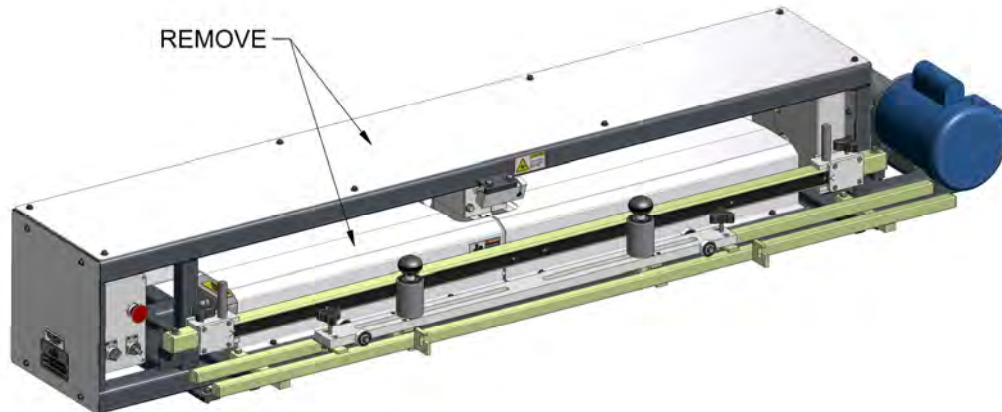

Fig. 8-2. Slitter Knife Removal Step 1
1. Disconnect power to the machine then remove the two covers shown in **Fig. 8-2**.